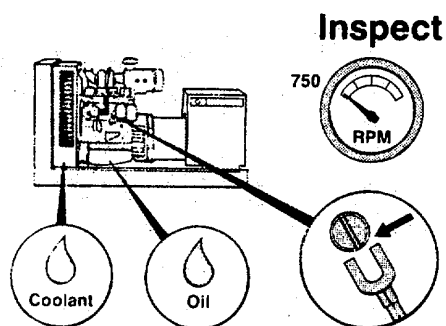

FIGURE 3-31. Visual Inspection.
- (4) Perform a visual inspection of the generator set while it is idling. Look for oil/water leaks and loose connections (FIGURE 3-31).
- (5) Place the generator set control switch to the AUTO position. (FIGURE 3-31).